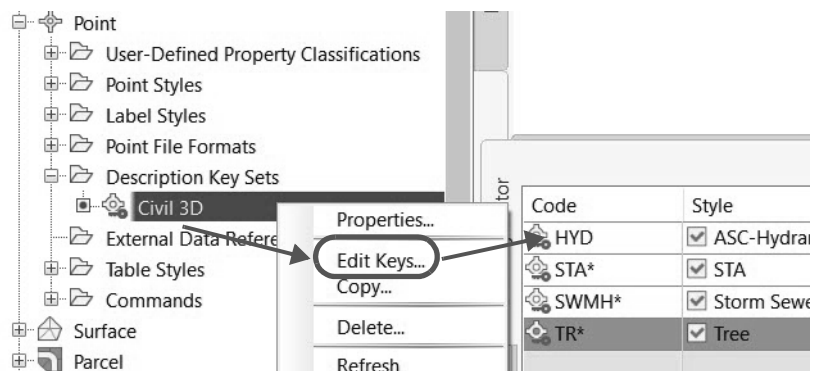

Figure 2–52
- In the HYD row, select the check box in the *Marker Rotate* column (as shown in Figure 2–53), select the cell, and then select **Parameter1** in the drop-down list.